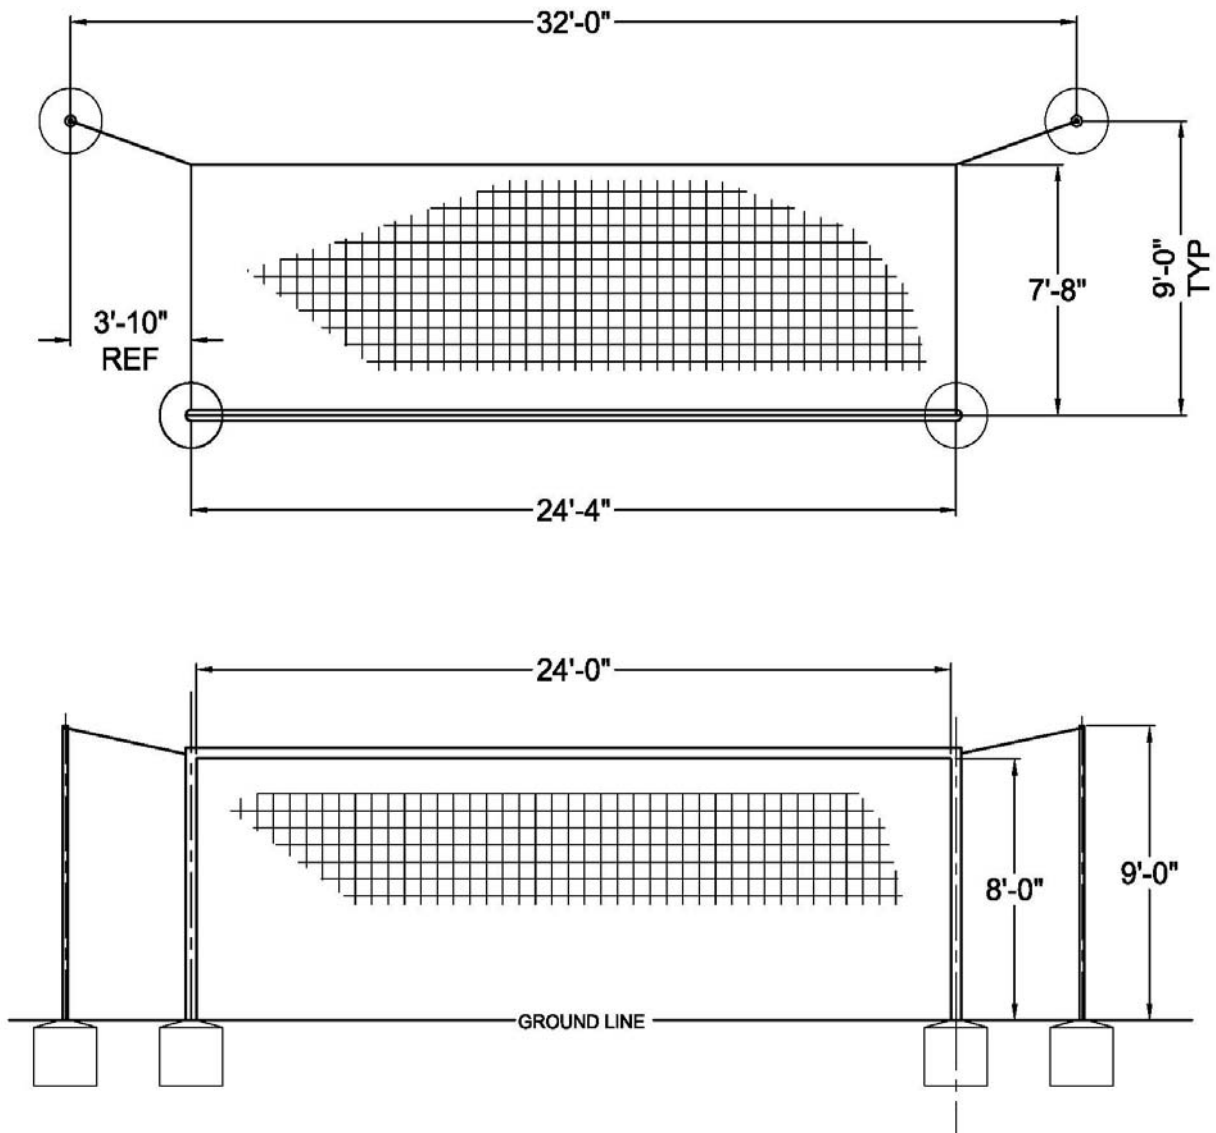

Figure 3
Measure a distance of 24' 4" center to center, prepare the locations for (2) posts to meet your local construction Codes, or the rule of depth, correct for your local frost line. Refer to figure 3 on page #9 for general measurement; please allow enough depth for a good solid base of gravel for proper drainage (6" recommended). The front posts are made from aluminum extrusions and finished to allow for many years of service. Proper installation and maintenance is the key factor in extending service life.